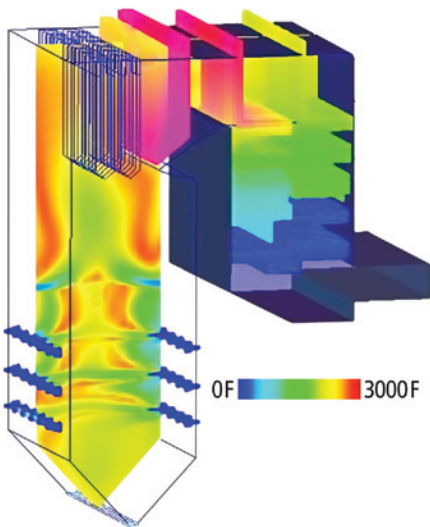

Figure 3: Thermal model of boiler
- Theoretical thermal modeling (Figure 3) is generally based on extrapolation from the flue gas temperature at the exit of the furnace, tube, water and steam temperatures, and the temperature of the burners in the lower furnace. This technique does not provide a direct measurement of the FEGT and has the potential accumulation of multiple errors during the extrapolation process.